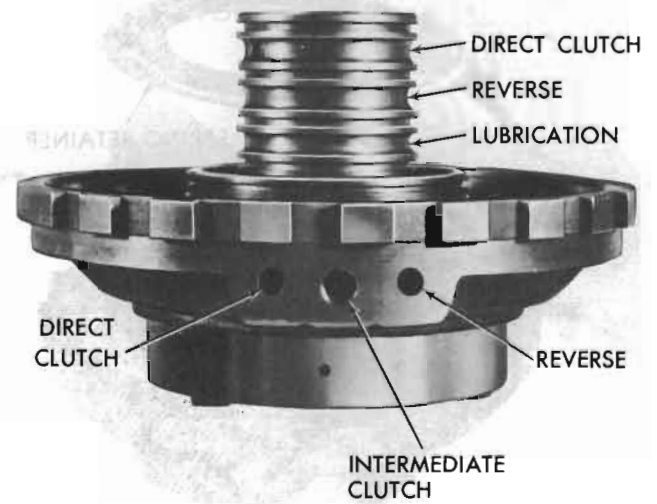

Figure 76-226
3. Air check the oil passages to be sure they are open and not interconnected. See Figure 76-226. Be sure constant bleed plug orifice is open. See Figure 76-137.